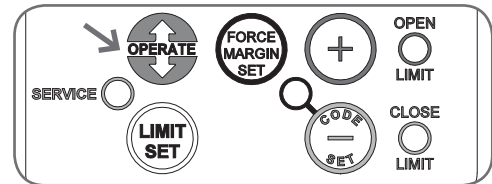

Fig.6.5.1
- Press the OPERATE button to open the door (**Fig.6.5.1**).
- Press the OPERATE button to close the door (**Fig.6.5.1**).